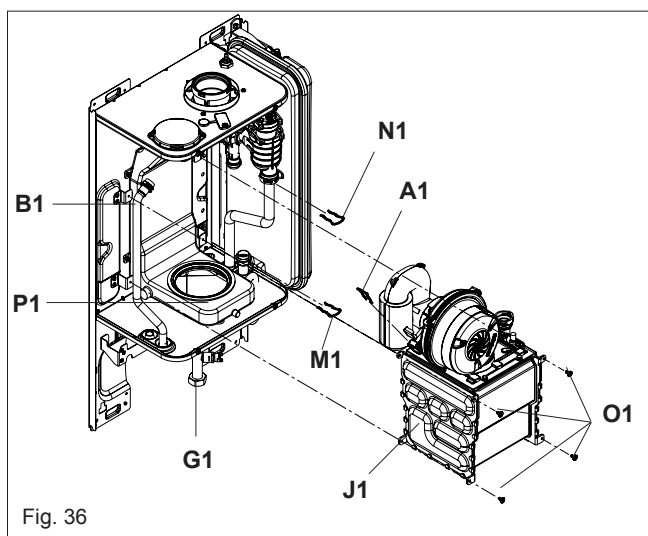

Fig. 36
6.16 MAIN HEAT EXCHANGER (fig. 36)